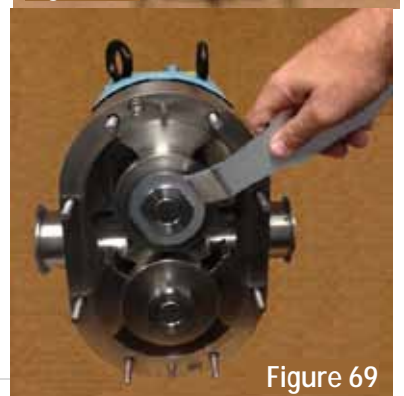

Figure 69
4. Tighten the rotor nuts clockwise. See table for rotor nut torque values, Figure 69.